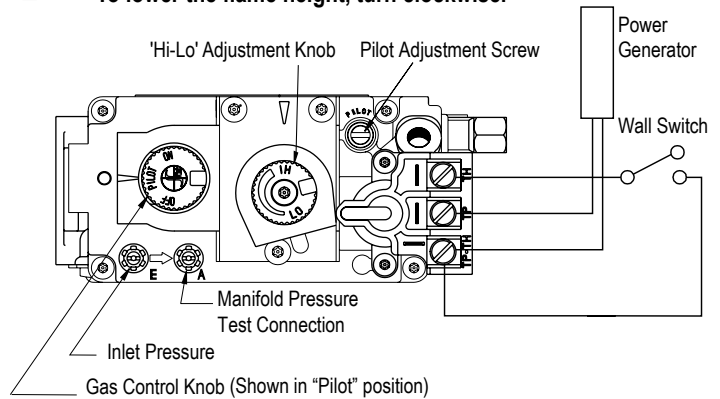

Figure 26. 'Hi-Lo' Adjustment on the SIT Nova 820 gas valve,
The L38DF-ST\* is equipped with an adjustable burner, allowing you to raise or lower the flames. To adjust the flames, locate the black knob marked 'Hi-Lo', in the centre of the gas control valve (See Figure 26).
1. Locate Pilot Adjustment Screw. (See figure 26 or 27.)